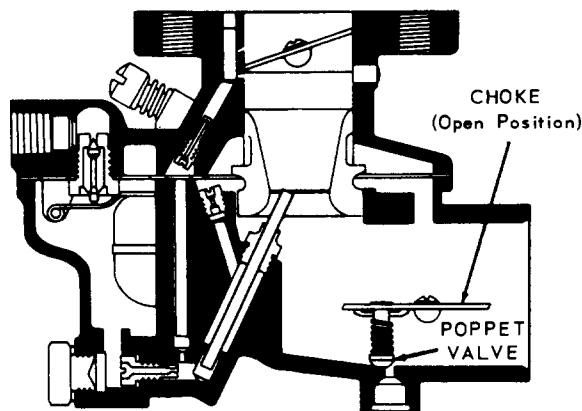

Fig. 4
**Choke system, Fig. 4,** consists of a valve mounted on a shaft located in the air entrance and operated externally by a lever mounted on the shaft. The choke valve is used to restrict the air entering the carburetor. This increases the suction on the jets